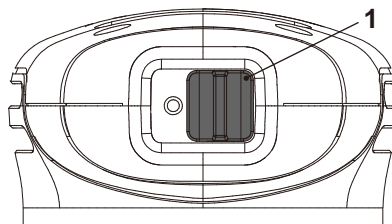

Fig. 11
2. To switch off the power tool, slide the on/off switch (1) fig.11 to the right so that "0" appears on the switch.